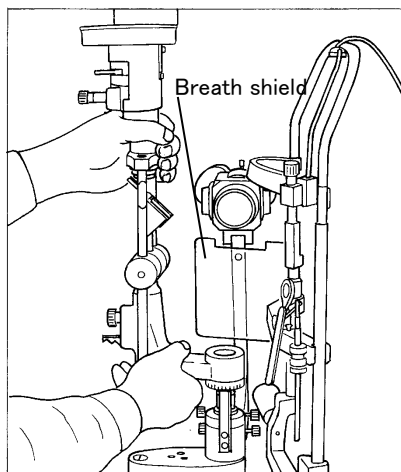

Fig. 14: Installing Illumination unit
- 4) Attach Illumination unit to the shaft on the base sliding it carefully(Fig. 14.)
- 1) Attach breath shield to the microscope arm. (Fig. 14)